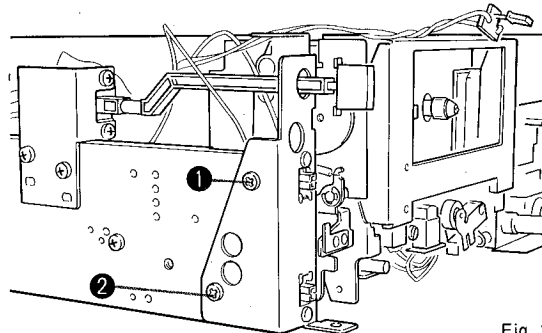
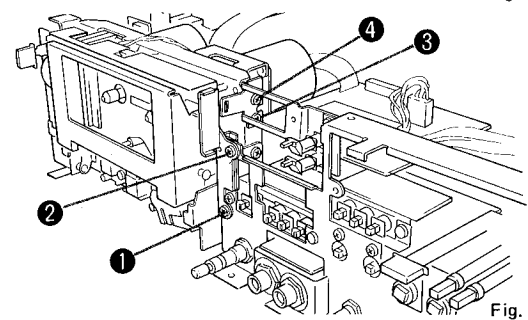

Fig. 12
Fig. 13
4. Remove the screws 1 and 2 in Fig. 12 and screws 1 to 4 in Fig. 13, and then remove the cassette mechanism unit.